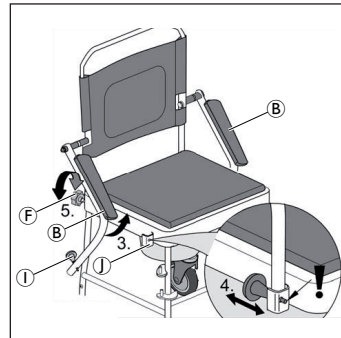

Fig. 3
3. Swivel armrests (B) on both sides upwards until the spring pin (1) latches into the hole of the lock (1) on the seat frame (Fig. 3).
4. Turn the star head screw (F) in completely (hand-tight) (Fig. 3).